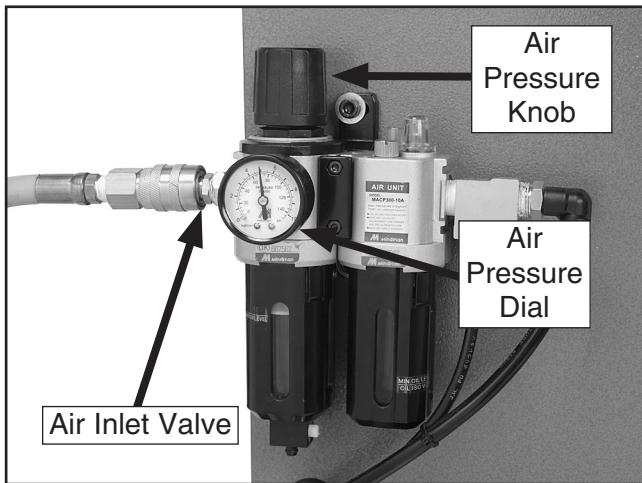

Figure 11. Air regulator-lubricator.
1. Connect a source of compressed air to the air regulator-lubricator inlet valve on the back (see **Figure 11**).
2. Lift up on the air pressure knob (see **Figure 11**), and turn it to adjust the air pressure dial to 70 PSI, then push the knob down to lock the setting.